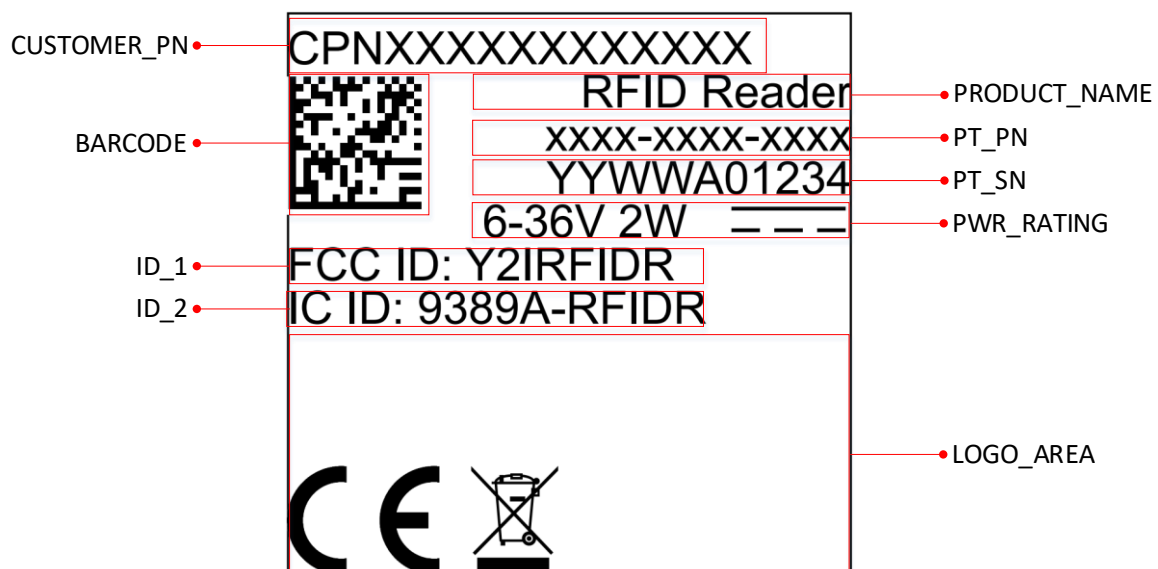

Figure 5-4: Label layout (26x26mm)
- The RFID Reader label layout and orientation is according to Figure 5-4 and placed in a 26x26mm area.